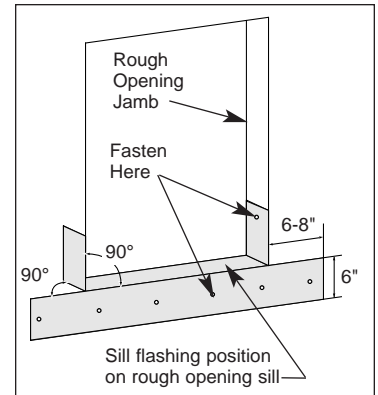

Figure 1
1. Before installing the window, install flashing at the sill, making sure the length of the sill flashing is equal to the frame sill width plus the width of the frame jamb flashing on each side (fig. 1). The width of the flashing must be equal to the width of the rough opening plus 8". Fold the sill flashing along its length 8" from the edge so that the flashing forms a 90° angle. Cut the sill flashing along the fold line 8" or the width of the jamb flashing from each end. Fold each cut end of the flashing that will cover the sill upward 90°. Attach the flashing onto the sill.